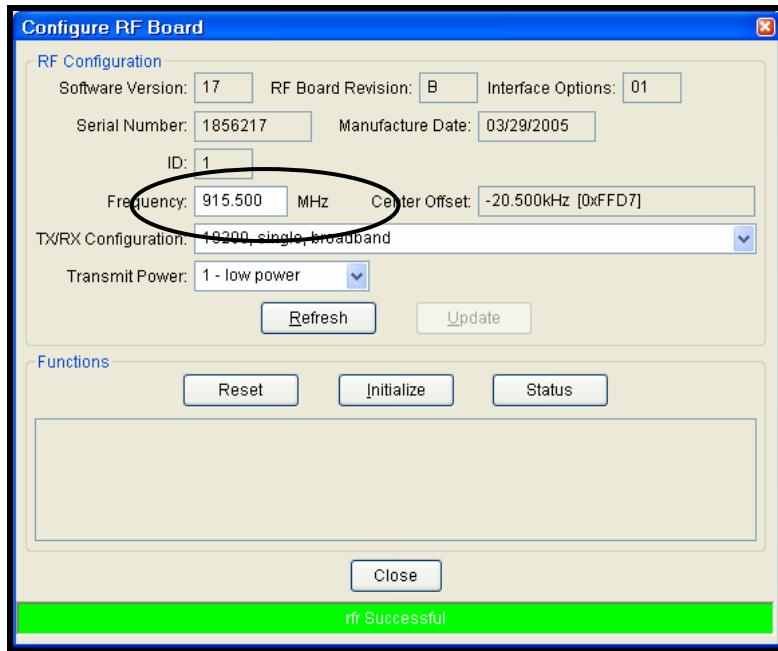

Fig. 8.10: Change Frequency
8.6.1.5 Highlight the text in Frequency box and change the number to the desired frequency (i.e. 915.500). Fig. 8.10